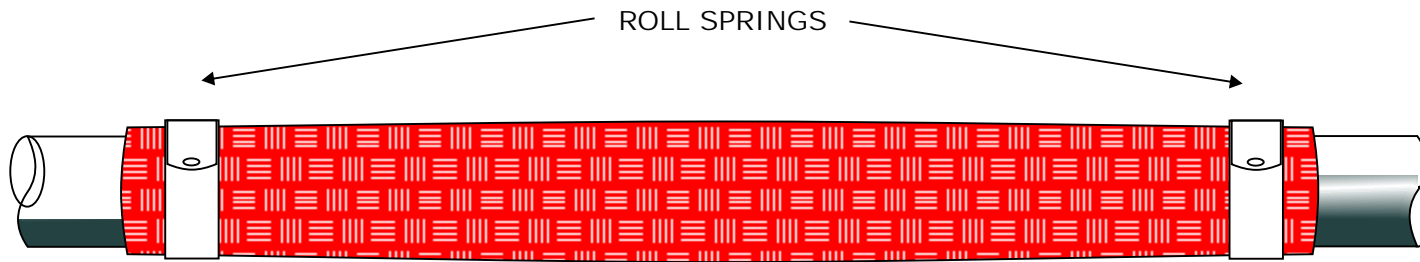

Fig 9
10. Slide the Red Silicone coated Fire Barrier Tube across the joint gap so that it overlaps equally distant at both sides. Secure at each side with a Stainless Steel Roll Spring as shown in Fig 9.